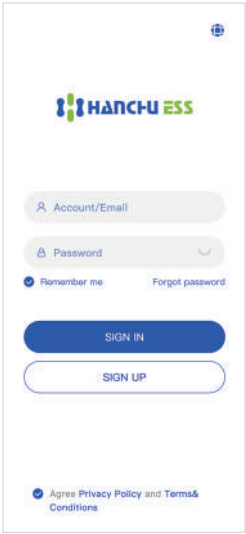

Fig. 1
- If you have already registered, you can log in directly . Then you can turn to "② Bind devices".
- If you don't have an account yet, tap "**Sign up**" to register as shown in Fig. 1.